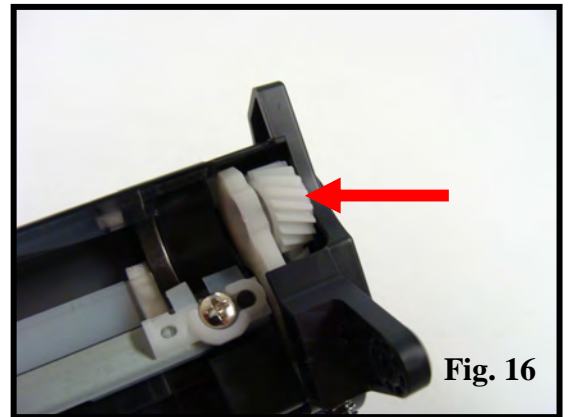

Fig. 16
16. Remove the mag roller drive gear from the hopper (Fig. 16).